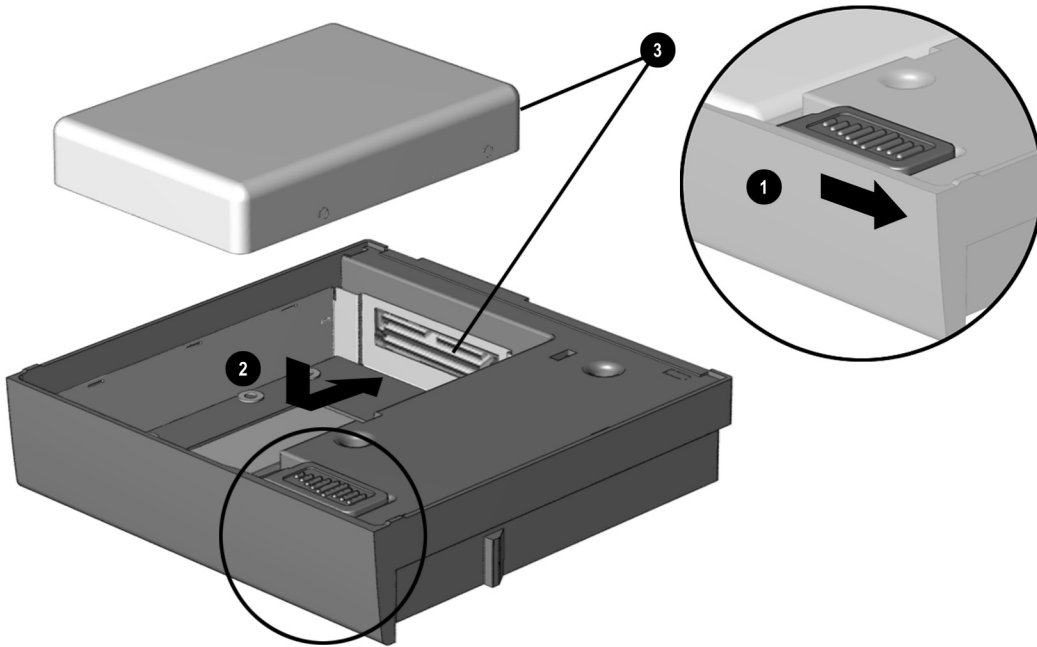

Figure 5-18. Inserting a 17-mm Hard Drive into a Dual- MultiBay Hard Drive Adapter
2. Push back and hold the slide tab **1** on the hard drive MultiBay adapter (Figures 5-18 and 5-19).